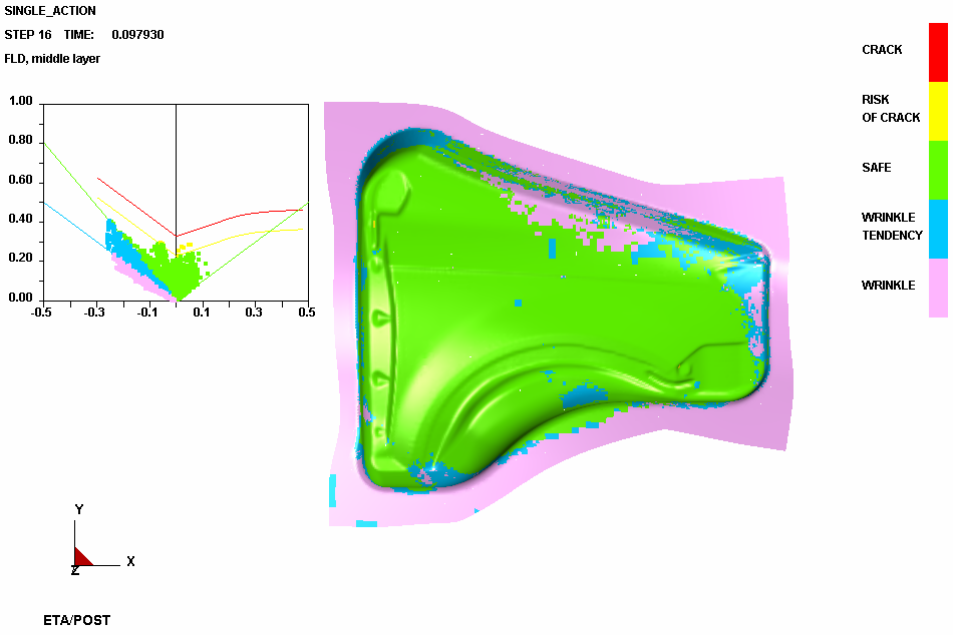

Figure 1.53 FLD contour
2. Select **Middle** from the **Current Component** list. The FLD contour of deformed fender is illustrated in Figure 1.53.